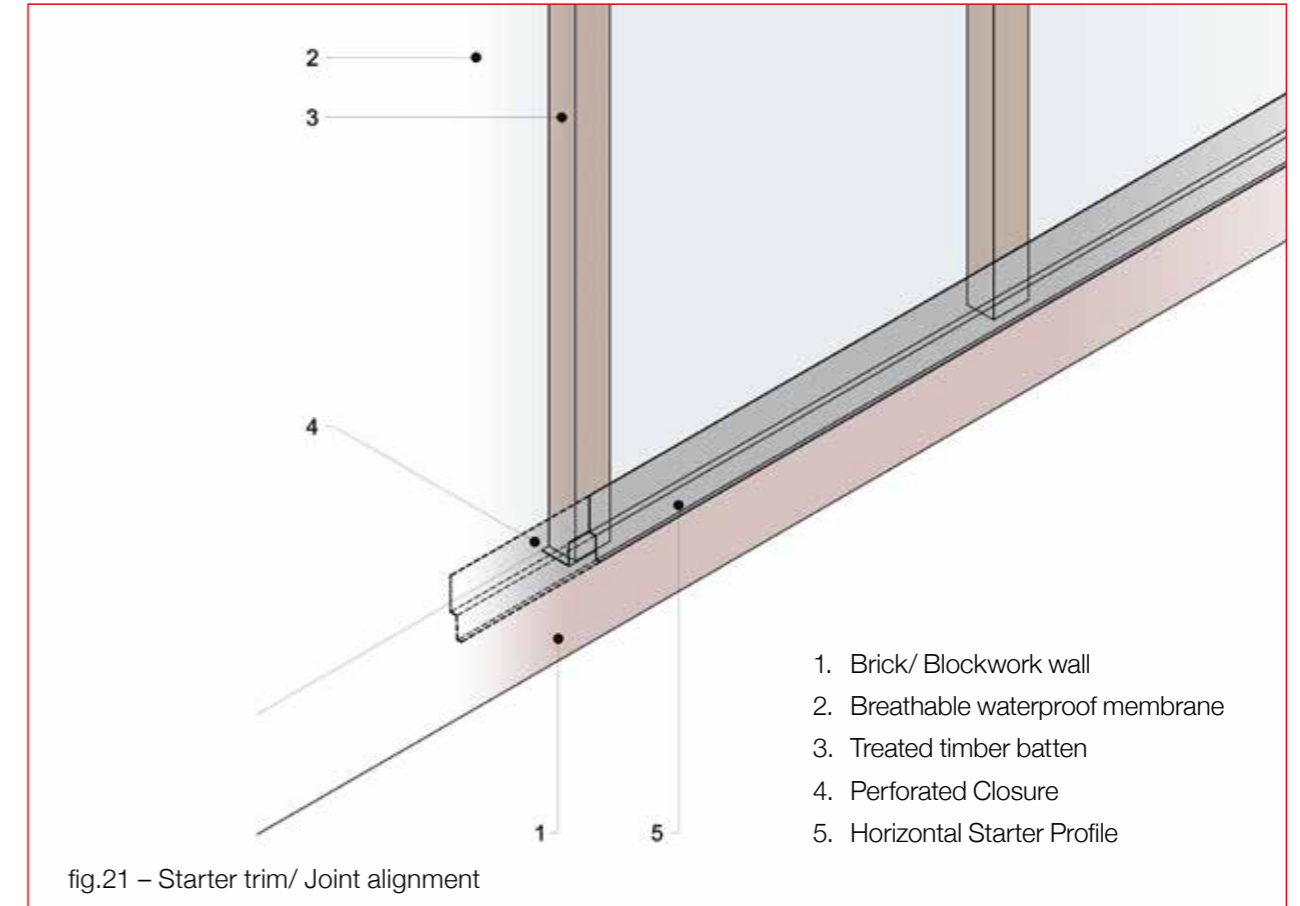

fig.21 – Starter trim/ Joint alignment
- Ensure gaps between lengths of starter trims are aligned with plank joints (see fig. 21)